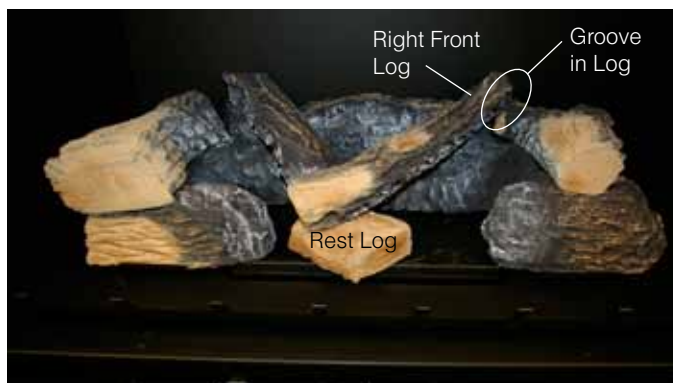

Figure 35e. Placing Right Center Log.
Step 7. Place the Right Centre log as shown in **figure 35e**.